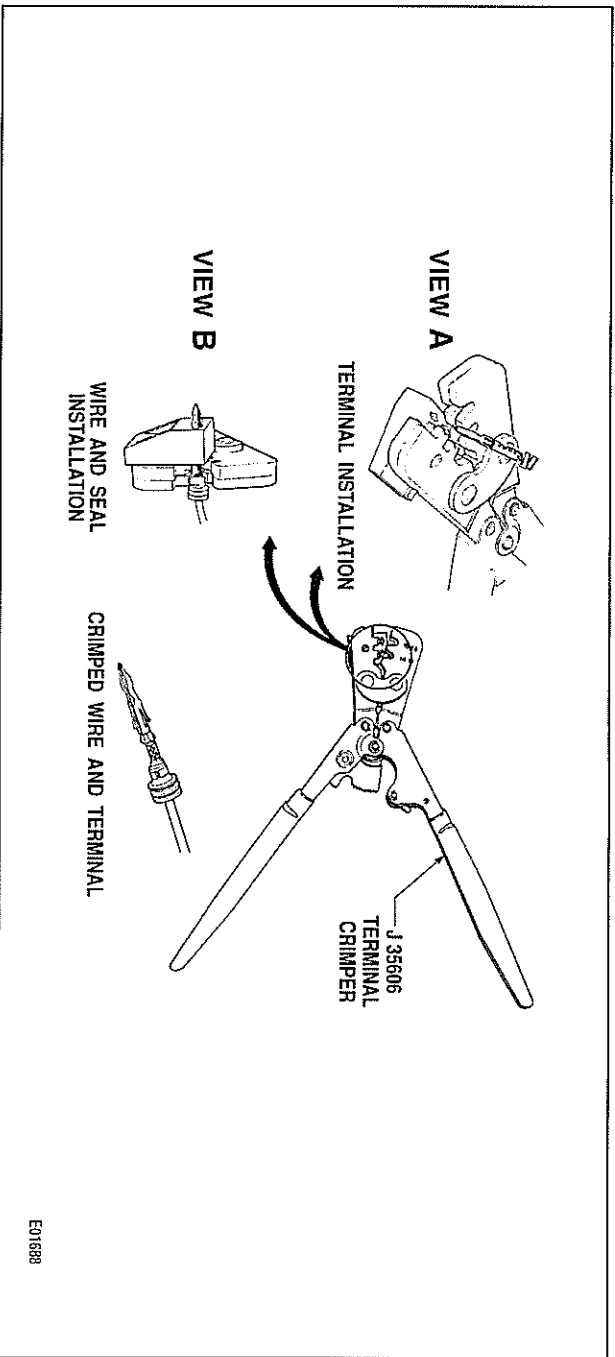

Figure E-11. Terminal Crimping With Tool J 35606
NOTE: *Two special tools are available for this operation: tool J 38125-6 (Paragraph C); tool J 35606 (Figure E-11) or J 38852 (Paragraph D).*
3. Insert terminal into crimping tool J 35606 (Figure E-11, View A), opening marked 18–20.
6. Slide the wire seal to the edge of the insulation and insert the wire and seal into the terminal (Figure E-11, View B).